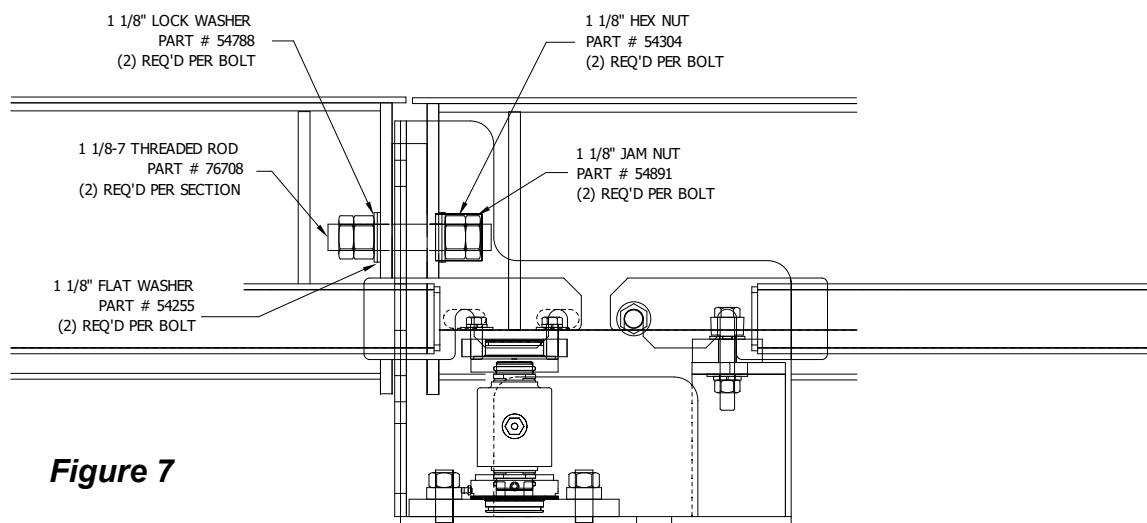

Figure 7
7. Install module connection bolts. Insert the 1 1/8" – 7 threaded rod into the module connection gussets and secure with the flat washer, lock washer, hex nut and jam nut as indicated. See Figure 7.